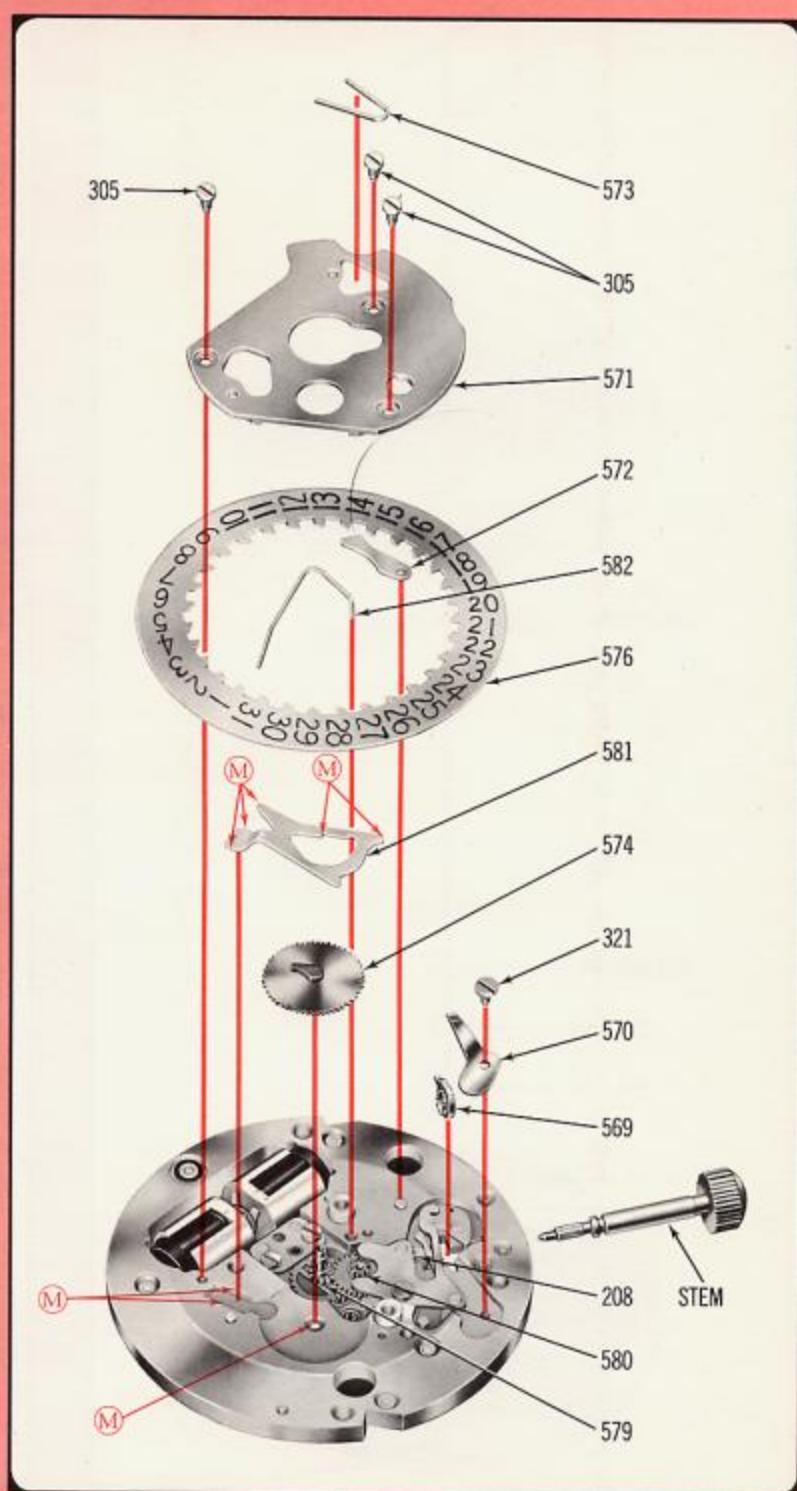

Fig. 45
- c. Lubricate (M) date trip wheel pivot sparingly, then replace date trip wheel assembly, calendar trip arm #581, date indicator #576, date indicator detent #572 and hour wheel #599.
- g. Lubricate sparingly with Moebius Special Lubricant OL207 at all (M) points indicated in Fig. 45.
- j. Checking and inspection of calendar functioning before dialing should be done with extreme care to prevent loss of the day indicator detent and/or spring. It is helpful to use a clear plastic disc (#CD2182 available at your authorized Bulova Material Distributors) with a screw through a properly located hole and into tapped hole (A) of the date bridge, to retain all parts during checking.
- e. Lubricate sparingly with Moebius Special Lubricant OL207 at all **(M)** points indicated in Fig. 45.